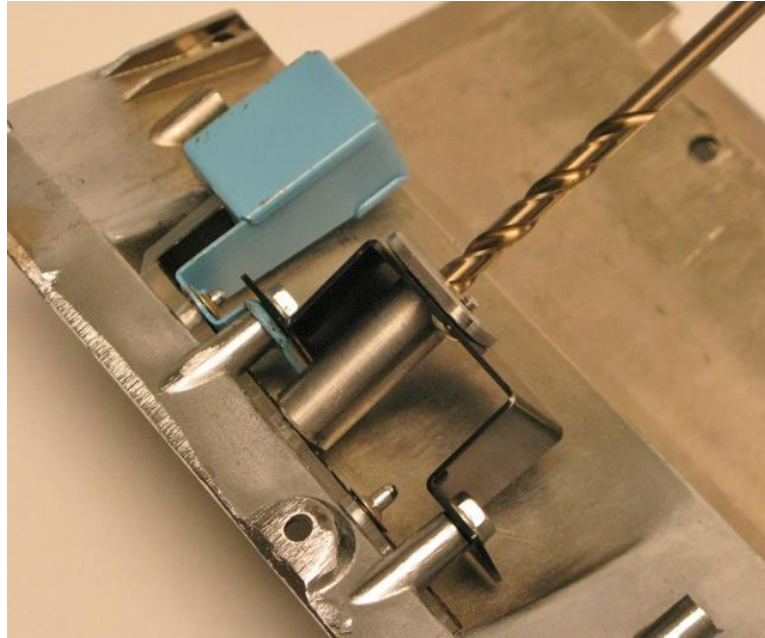

Figure 6 – Drill Center Dash Bezel
11. Using the drill guide, drill a hole into the center dash bezel up to $7/32$ " for the DSE wiper switch (Figure 6).